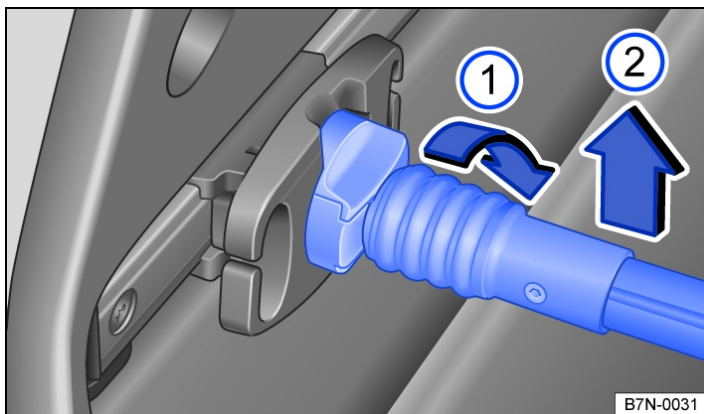

Fig. 2 In the luggage compartment: unhooking the cover.
- ① Rotate the support rod.
- ② Remove the support rod.
1. Rotate the support rod by 90 degrees in the direction of the arrow → *fig. 2* ① until the red marking on the support rod becomes visible.
2. Pull the support rod up and out → *fig. 2* ②.